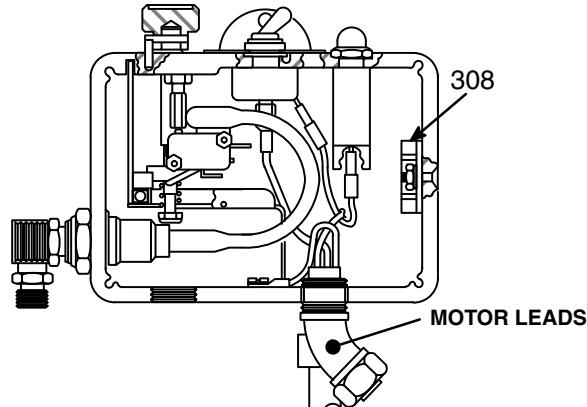

Fig 20-2
Disconnect the + and – leads from the motor to the bridge (308). See Fig 20-2.